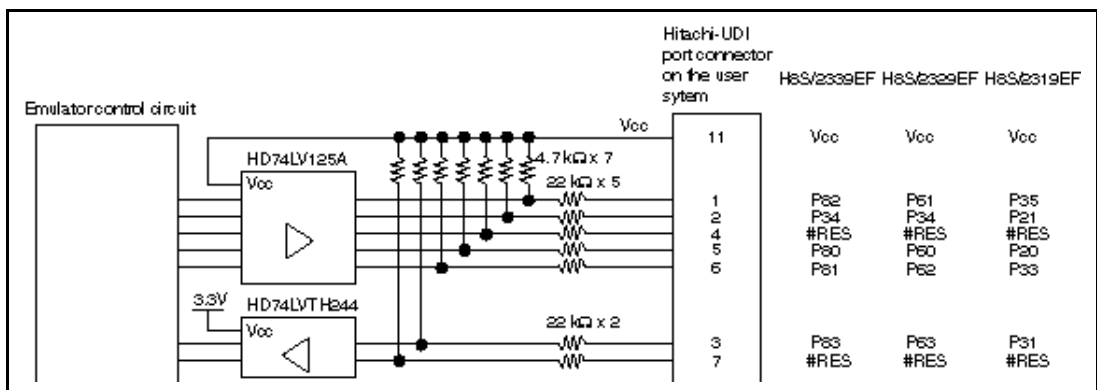

Figure 4.5 Interface Circuit in the Emulator (Reference)
6. Figure 4.5 shows the interface circuit in the emulator. Use this figure as a reference when determining the pull-up resistance value.